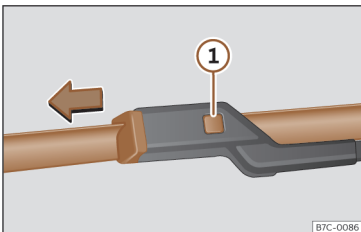

Fig. 207 Changing the windscreen wiper blades
- Press and hold release button >>> **Fig. 207** ① and pull gently on the wiper blade in the direction of the arrow.